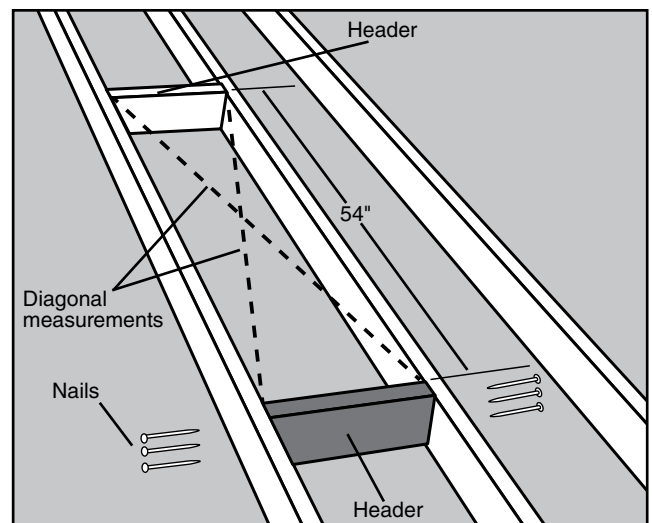

FIGURE 13 How to check for square
- STEP 5.** Position the second header 54" from the first one and repeat Step 4 (See Figure 13).
- STEP 6.** The frame for the rough opening requires four sides. The headers make up two of those sides. If your ceiling joists are spaced so that they make up the other two sides of the rough opening, check the opening for squareness by measuring across the diagonals. The measurements should be within 1/8" to be considered square (See Figure 13). If your ceiling joists do not make up the other two sides of the rough opening, you need to install one or two additional pieces of lumber to frame the other side(s) of the rough opening, go to "Installing Stringers" on page 16.